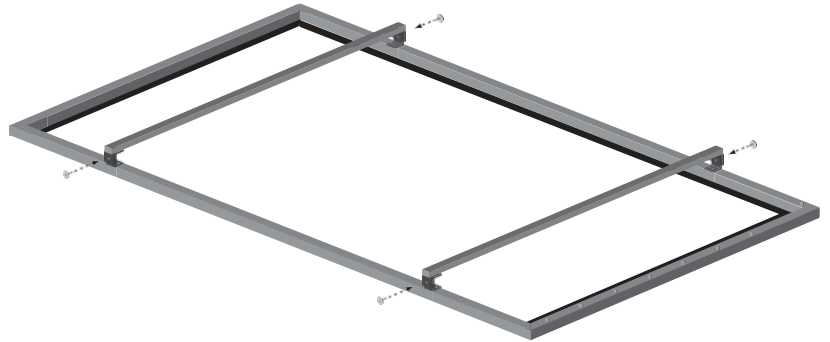

Figure 7: Temporarily Attaching Wall boards to the Frame
3. Bolt wall boards to brackets using the supplied 3/4" hex head bolts (see Figure 7).